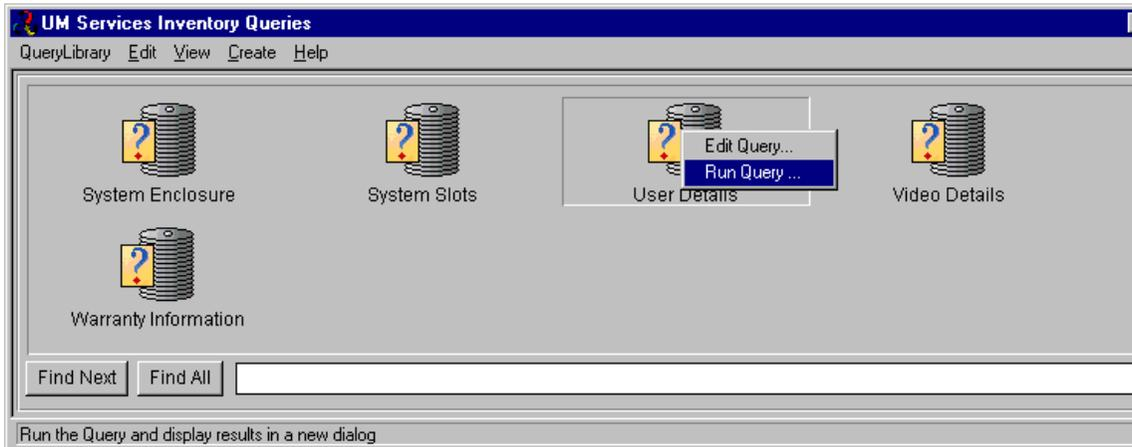

Figure 119. Choosing and running a query
15. You will now find a new query named **Lease Exp Location** in the UM Services Inventory Queries window (Figure 119 on page 152).